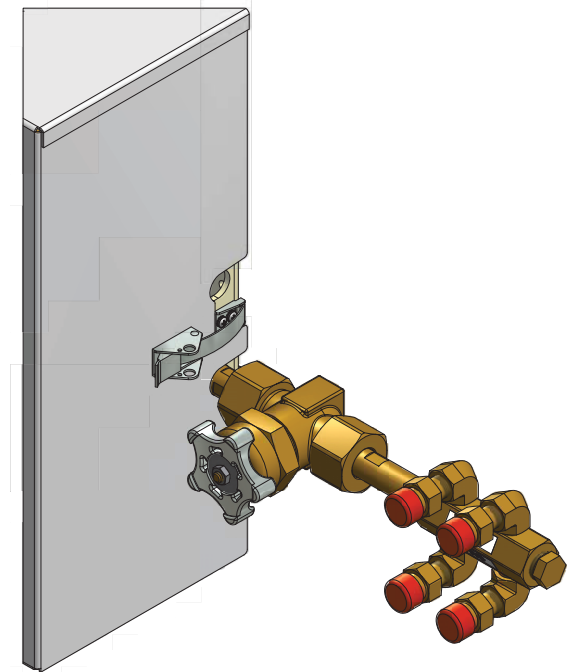
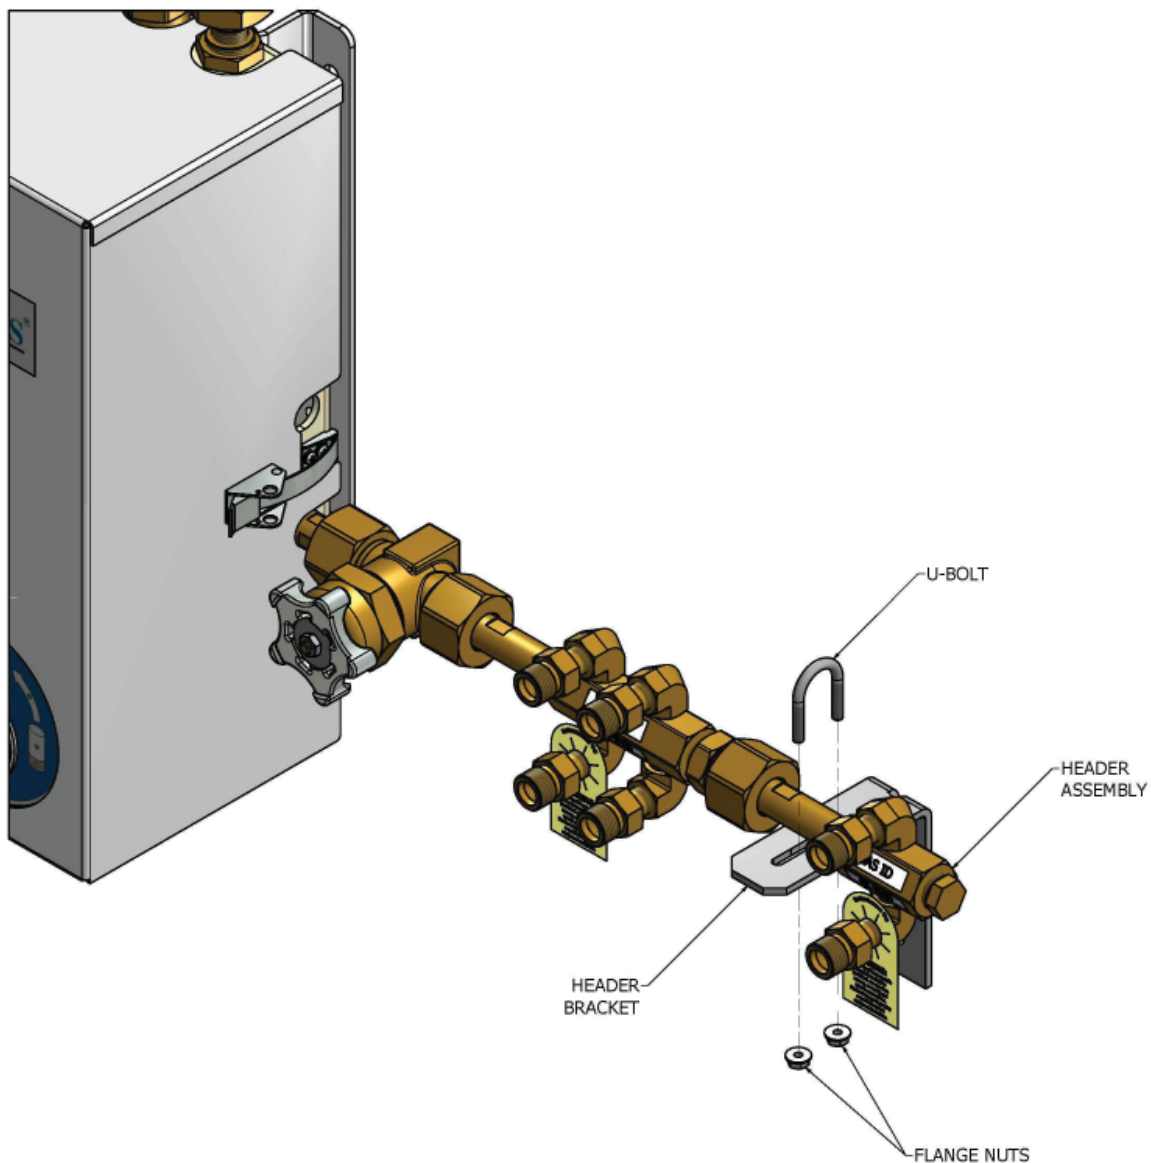
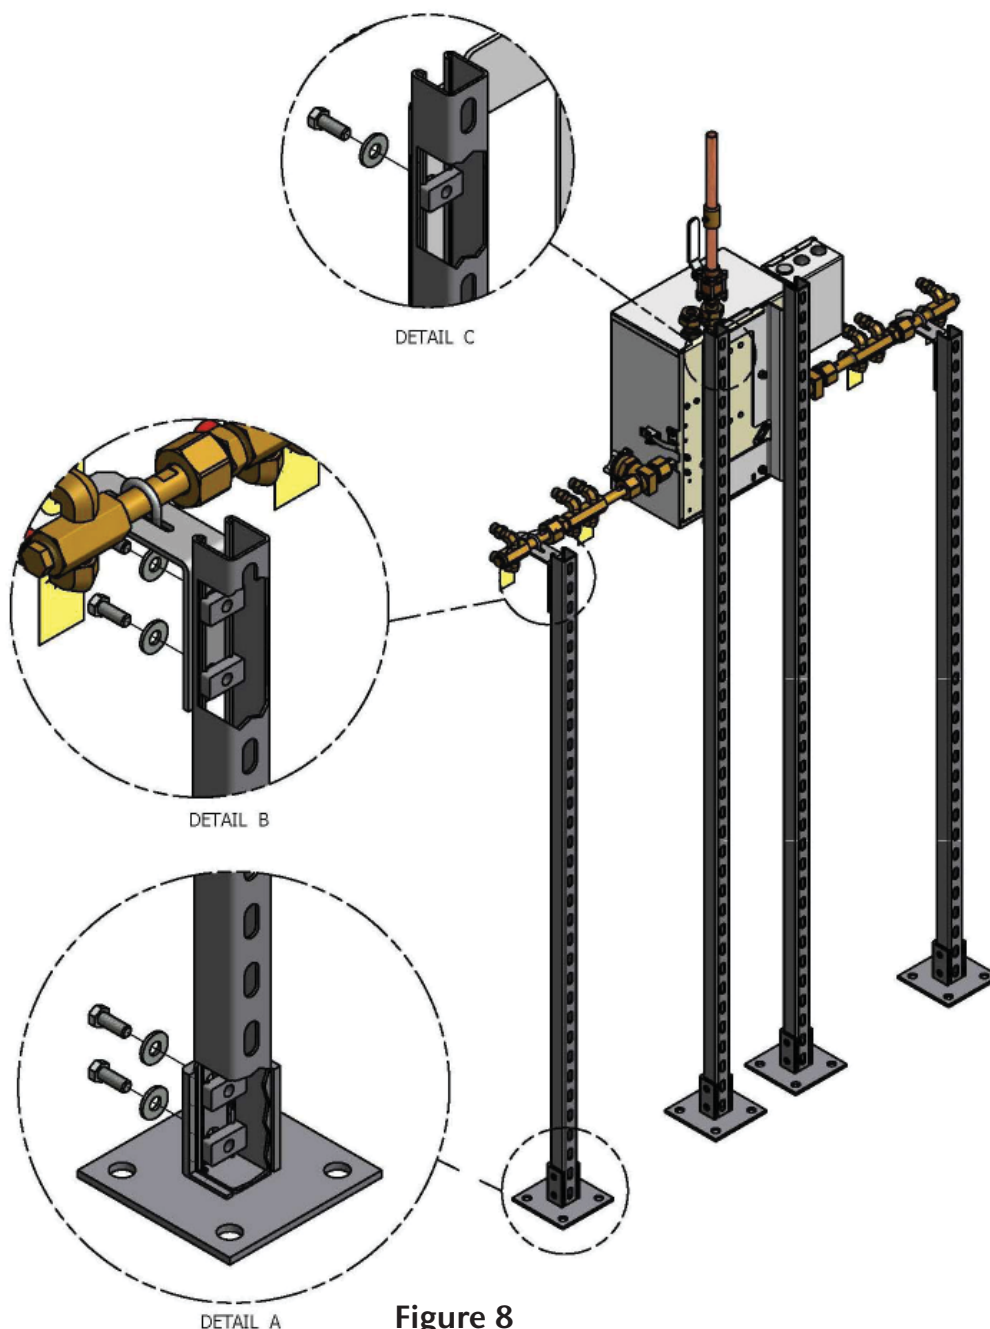

Figure 4
Figure 5
Figure 8
8. For all manifolds, additional shipping cartons contain extension headers and header wall brackets. Attach master valve and appropriate header extension to manifold control module. Position cylinder inlet connections of each header extension so they are pointing out (away from the wall) and tighten header extension (Figure 4).
9. Each header kit greater than 5 inlets is shipped with an appropriate number of header brackets. Position brackets against wall and on bottom side of header as shown in Figure 5. Attach bracket to wall using appropriate anchors (by others). $\frac{3}{8}$ " diameter anchors are recommended.
5. Attach post base to one end of each 80-inch channel as shown in Figure 8, Detail A. Use two each $\frac{3}{8}$ " bolts, flat washers and channel nuts per base. Tighten all four bolts.
6. Stand each channel / base side by side. Attach manifold mounting bracket to both bases as shown in Figure 8, Detail C. Use four each $\frac{3}{8}$ " bolts, flat washers and channel nuts per base. Top of bracket should be level and positioned 77- $\frac{1}{2}$ " above floor. Tighten all four bolts.
10. Additional cartons containing master valves and header assemblies will be shipped loose. Header wall brackets, mounting hardware and plugs will also be shipped loose for manifolds with more than five cylinders per bank. Attach the master valves and appropriate header extensions to the manifold control panel. Position cylinder inlet connections of each header extension so they are pointing out (away from the wall) and tighten header extension (Figure 4). If wall brackets are required install as necessary (Figure 5).
11. Each header extension is shipped with a header bracket. Each header bracket should be attached to a manifold header stand. Assemble each header stand by attaching a post base to one end of 66-inch channel as shown in Figure 8, Detail A. Use two each $\frac{3}{8}$ " bolts, flat washers and channel nuts. Tighten all bolts.
12. Set header stand in a vertical position roughly in alignment with two vertical control panel stands. Position header bracket against channel and on bottom side of header as shown in Figure 5. Attach bracket to channel as shown in Figure 8, Detail B. Use two each $\frac{3}{8}$ " bolts, flat washers and channel nuts. Tighten all bolts.